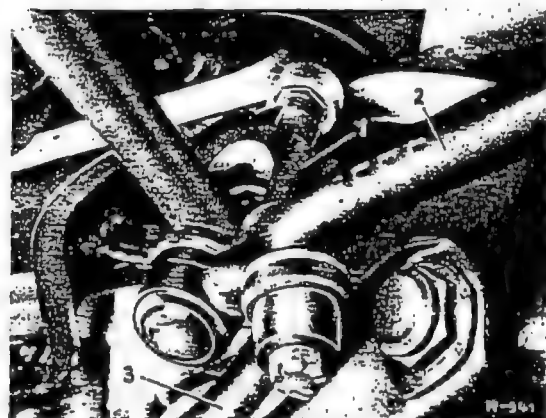

Fig. 46-9/2
3. Press out the tie-rods at the left and at the right from the steering knuckle arm and press out the center tie-rod from the steering gear arm and the steering relay arm, using Fixture 136 589 12 33 (Fig. 46-9/2 and 46-9/3). Remove the steering linkage.